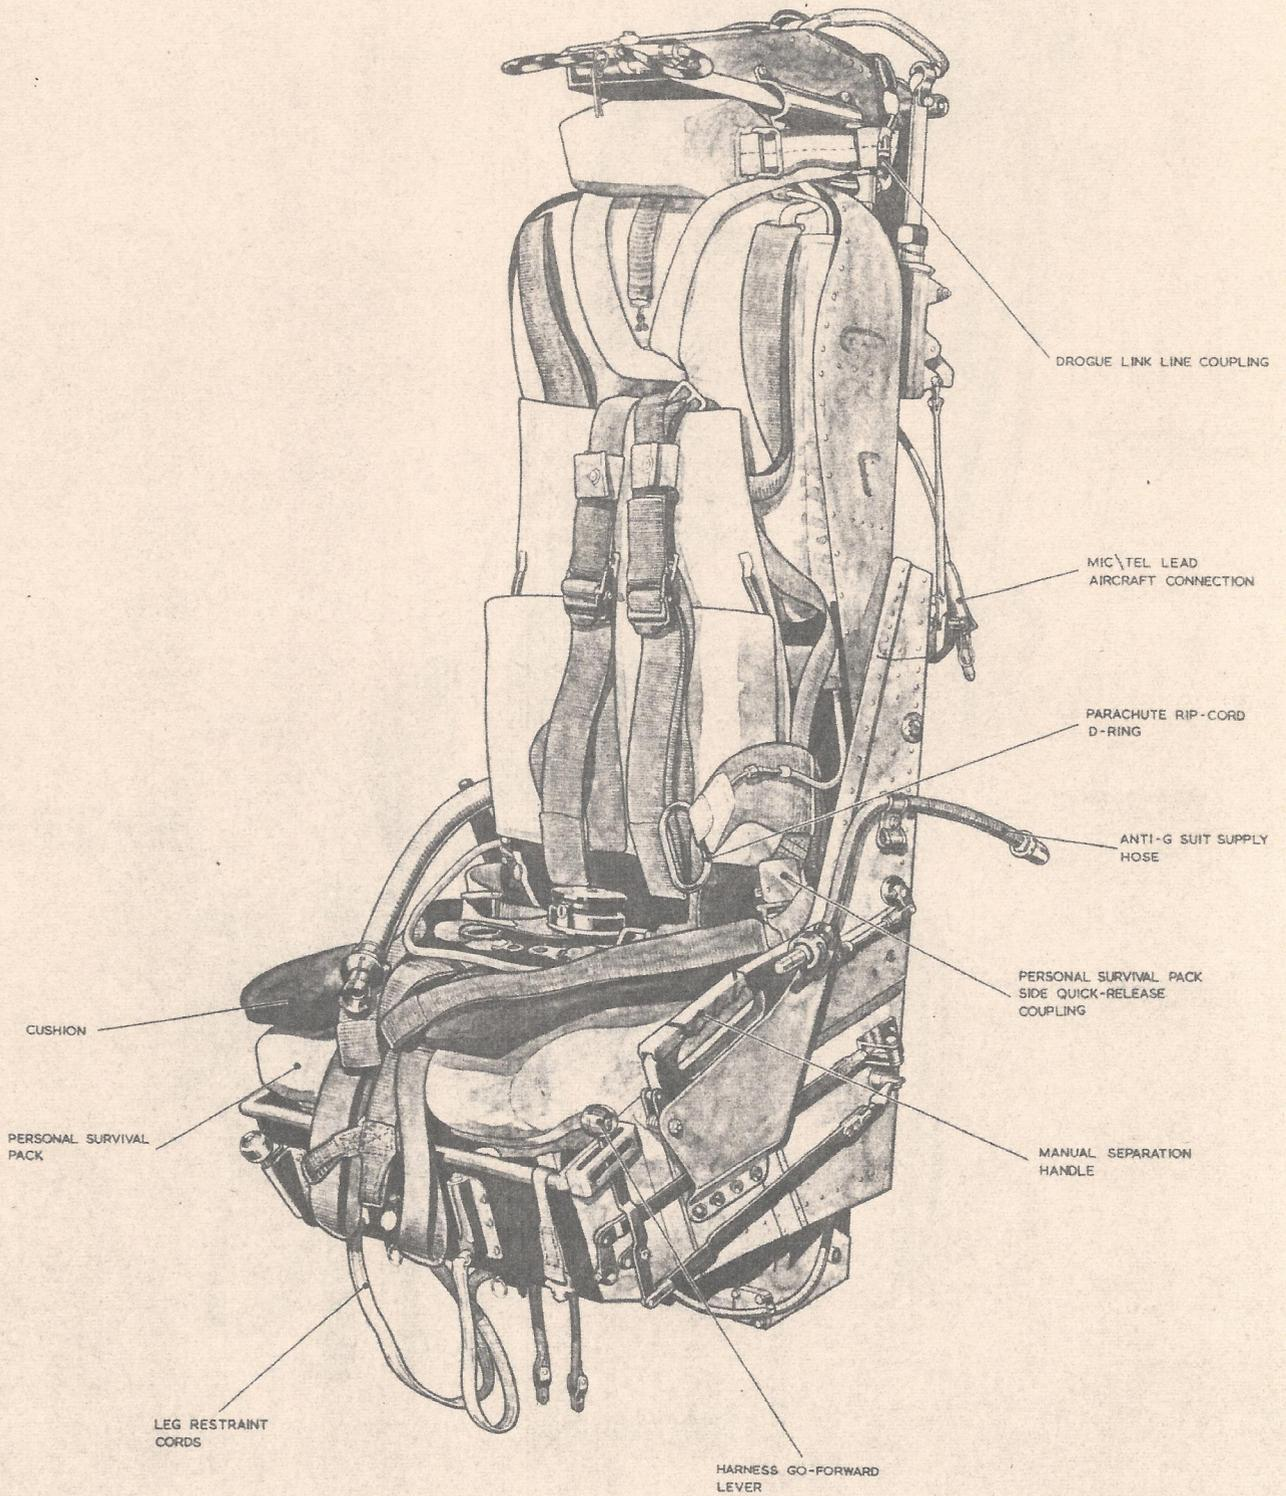

Fig. 1. The Type 4HA Mk. 1 seat equipped (1)
- (1) Safety pins inserted in sears of canopy jettison mechanism and ejection gun breech.
- (2) Safety pin inserted in drogue gun safety lock.
- (3) Safety pin inserted in guillotine gun sear.
- (4) Safety pin inserted in seat pan firing handle.
16. The following procedure is to be used when installing the equipment in the seat, reference being made to fig. 1 to 7 inclusive for detail as necessary.